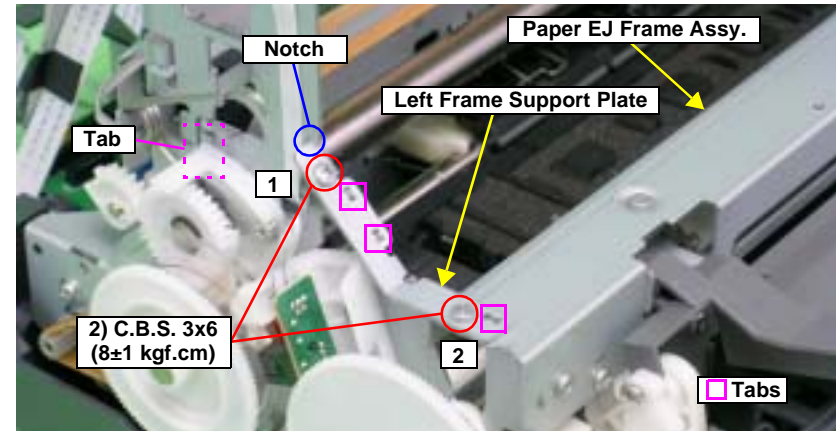

Figure 4-50. Removing the Left Frame Support Plate
- Insert the Left Frame Support Plate into the notch on the Main Frame. See Figure 4-50.
- Align the two Tabs on the Main Frame and the Tab on the Paper EJ Frame Assy with the three positioning holes on the Frame Support Plate (Left). See Figure 4-50.
- Align the Tab (rear side) of the Left Frame Support Plate with the outside of the Left CR Shaft Mounting Plate. See Figure 4-50.
- Tighten the screws in the order shown in Figure 4-50.